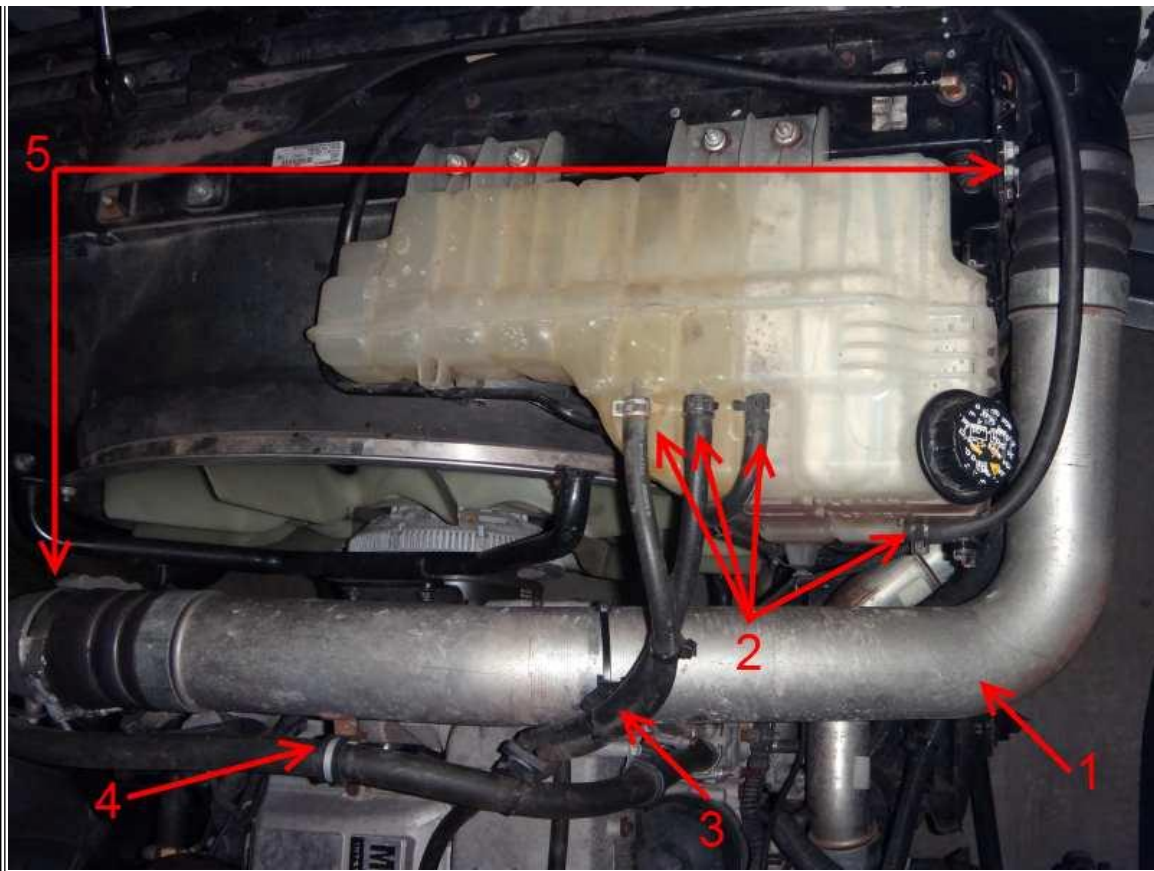

**Figure 2: WorkStar Fender Well**
3. Remove the pin holding the passenger inner fender in place (**Figure 2**, Item 1) and remove from vehicle.